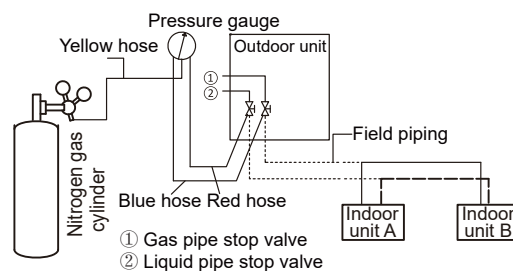

Figure 14-18
4. Use blind plugs to block all liquid (gas) side openings, except for the opening at the indoor unit which is furthest from the outdoor units ("Indoor unit A" in Fig.14-18).